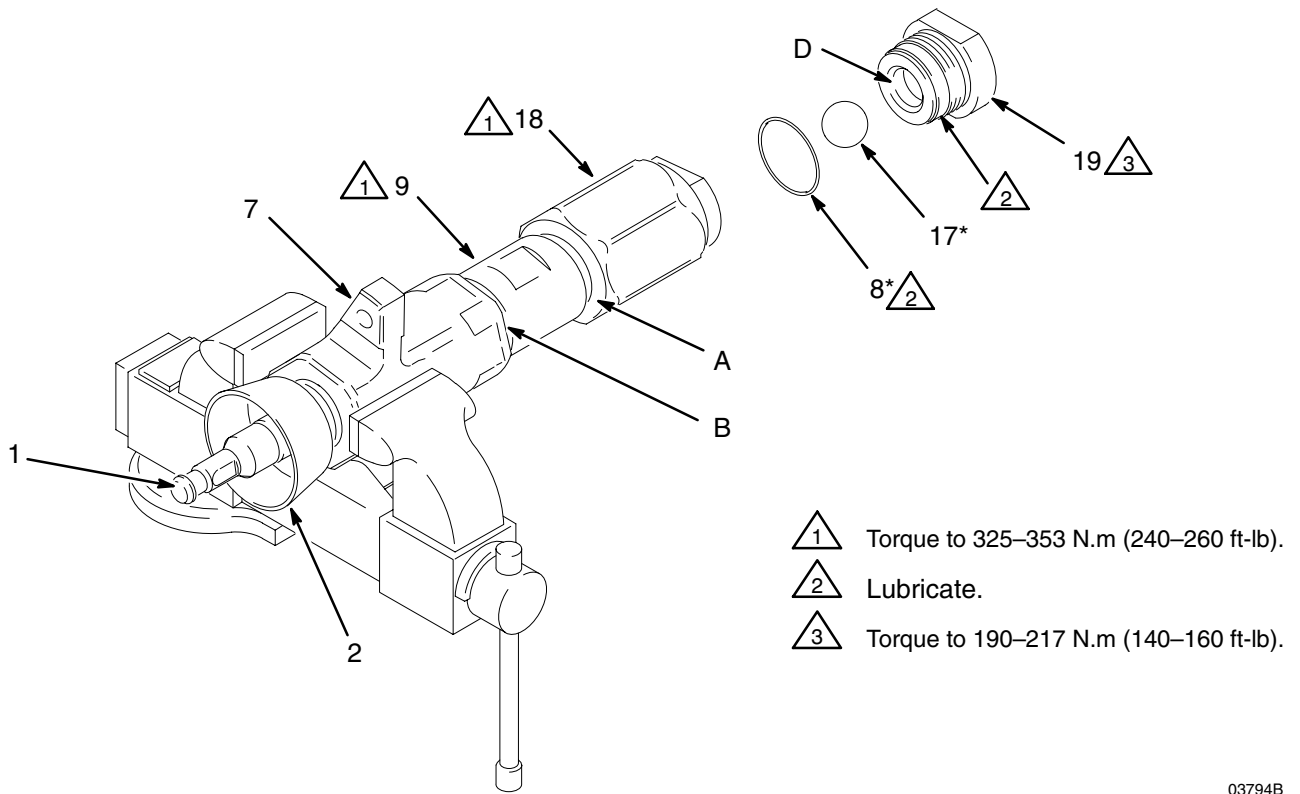

Fig. 7
1. Place the pump lengthwise in a large vise, with the jaws on either the outlet housing (7) as shown in Fig. 7 or on the cylinder (9) flats. Using the supplied wrench (110), loosen, but do not remove, the packing nut (2).
2. Apply a pipe wrench to the flats of the intake valve (19). Unscrew the intake valve (19) from the intake housing (18). Be careful to catch the intake ball (17) as you remove the intake valve, so that it does not fall and suffer damage. Remove the seal (8) from the intake valve. Inspect the ball and the seat (D) of the intake valve for wear or damage.
3. Apply a pipe wrench to the hex of the valve housing (18). The pump assembly may separate at joint A or joint B.
5. Install the packing nut (2) loosely into the outlet housing (7).
6. Lubricate the piston packings. Slide the displacement rod (1) and piston assembly down into the cylinder (9). The cylinder is symmetrical, so either end may face up. Use a rubber mallet to drive the rod into the cylinder, until the piston seat housing (16) is near the bottom of the cylinder.
7. Install the seal (8*) on the top of the cylinder (9). Lubricate the seal and the top threads of the cylinder.
8. Place the outlet housing (7) in a vise, as shown in Fig. 7. Slide the displacement rod (1) up into the outlet housing, then screw the cylinder (9) into the outlet housing handtight. The threads will engage easily until the seal (8*) contacts the sealing surface of the outlet housing. The top of the rod will protrude from the packing nut (2).
10. Install the seal (8*) on the intake valve (19). Lubricate the seal and the threads of the intake valve. Place the intake ball (17*) in the intake housing (18), then screw the intake valve into the intake housing handtight. The threads will engage easily until the seal contacts the sealing surface of the intake housing.
11. Using a pipe wrench, torque the intake housing (18) to 325–353 N.m (240–260 ft-lb). This will torque both cylinder joints (A and B). See Fig. 7.
12. Using a pipe wrench, torque the intake valve (19) to 190–217 N.m (140–150 ft-lb). See Fig. 7.
13. Torque the packing nut (2) to 136–149 N.m (100–110 ft-lb).